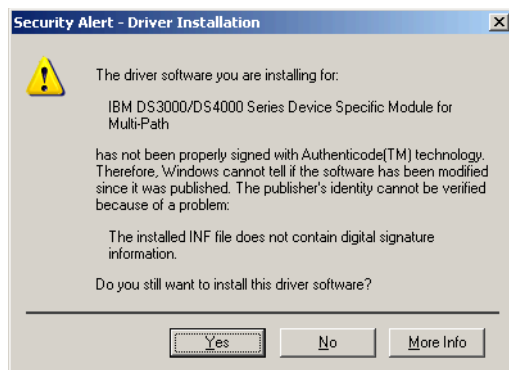

Figure 23-11 Security alert
10. During the installation, you might see a message (Figure 23-11) indicating that the device specific module for MPIO is not yet digitally signed. Click **Yes** to continue.